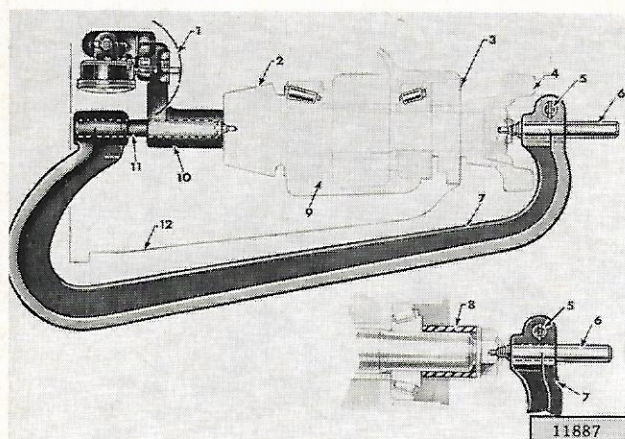

FIG. 11-15—PINION ADJUSTING FIXTURE
**Note:** When setting Model 70 axle differentials, Spacer W-99-19 must be inserted on the stationary pin between the housing (No. 10, Fig. 11-15) and the pinion head.
h. Install the pinion adjusting fixture on the pinion with the stationary guide pin and the adjustable guide pin seated in the pinion shaft lathe centers, as shown in Fig. 11-15.